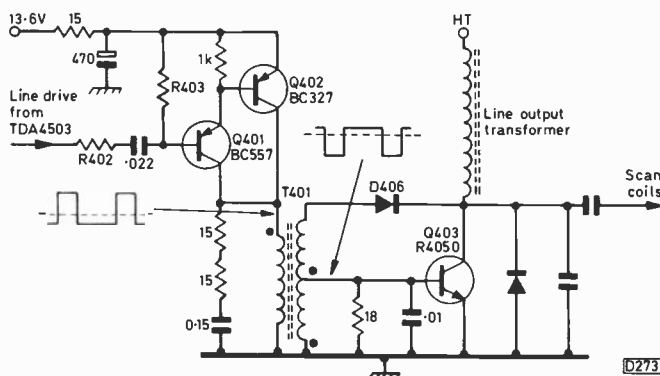

Fig. 2: The line driver stage and the line output transistor's base circuit. The values of R402 and R403 depend on the size of the tube.
Fig. 2 shows the line output transistor's base drive circuit. The line driver transformer T401 drives the line output transistor Q403 hard on but the combination of D406 and the few extra turns on T401 prevent its collector voltage going too low – the extra turns provide enough voltage to turn on D406. This extra winding is designed so that Q403 remains just on the edge of saturation during the scan period, thus reducing its dissipation to a minimum.
Fig. 2: Use of different heads in the various modes of operation. For SP stills one LP and one SP head is used. All four video heads are used in the SP search mode.
The head selection chart (Fig. 2) shows the differences in head thickness and gap tilt (azimuth offset). (A) shows normal record/playback, using the Ch. 1 and Ch. 2 SP heads alternately. (D) shows slow-speed record/playback, using the Ch. 1 and Ch. 2 LP heads alternately. The LP heads are also used for LP still pictures (E) and picture search (F). Noise bars are apparent therefore during the LP picture search and still frame modes. Note that it's still frame as opposed to still field.